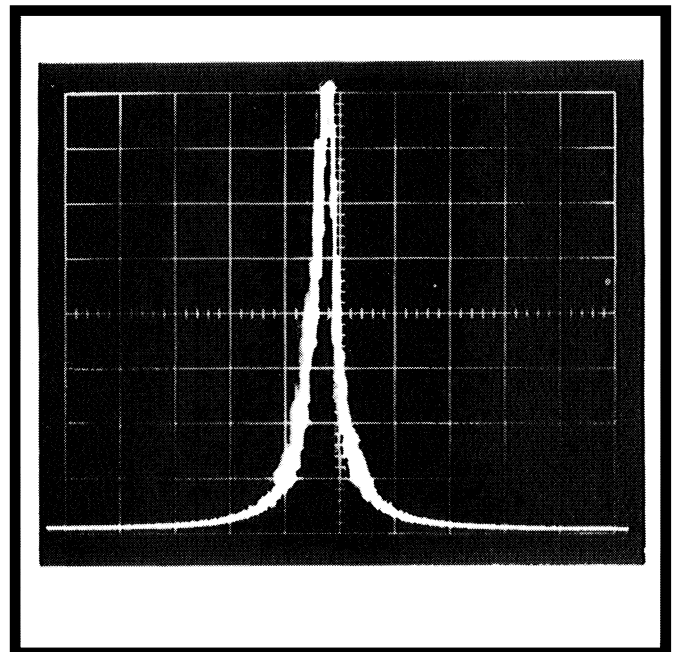

Fig. 6-37. Typical display showing incidental frequency modulation.
- f. Check the display frequency modulation (see Fig. 6-37). Must not exceed 1 minor division (≤ 200 Hz).